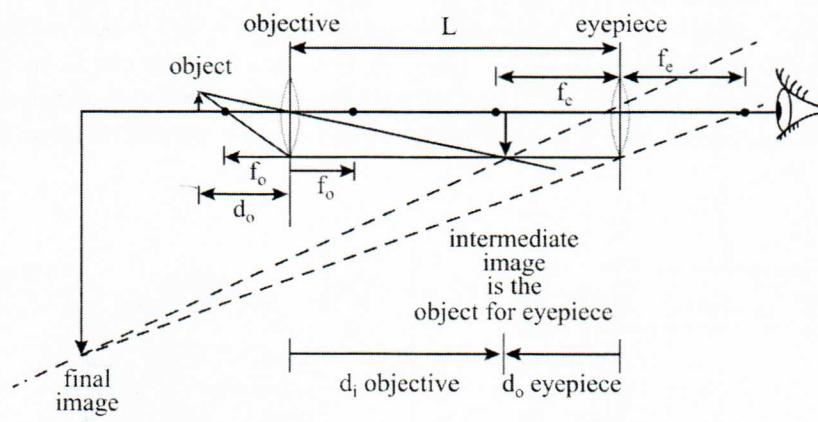

Figure 10.4 The compound microscope has the object distance farther than the objective focal length to the objective lens.
- 10.3.3 The compound microscope as seen in figure 10.4 also uses two converging lenses to create a larger, inverted, virtual image seen with a relaxed eye. The object for a microscope is close to the objective lens, placed so that $2f_o > d_o > f_o$, where f_o is the focal length of the objective lens. The closer to f_o , the greater the magnification from the objective lens.